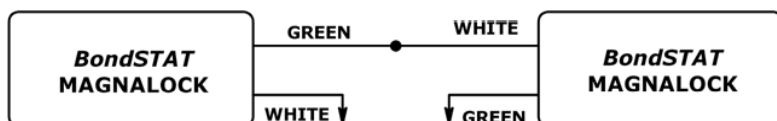

Figure 24. Double Door Status Wiring
1. CONNECT the green wire of one lock to the white wire of the other as shown in Figure 24, "Double Door Status Wiring."